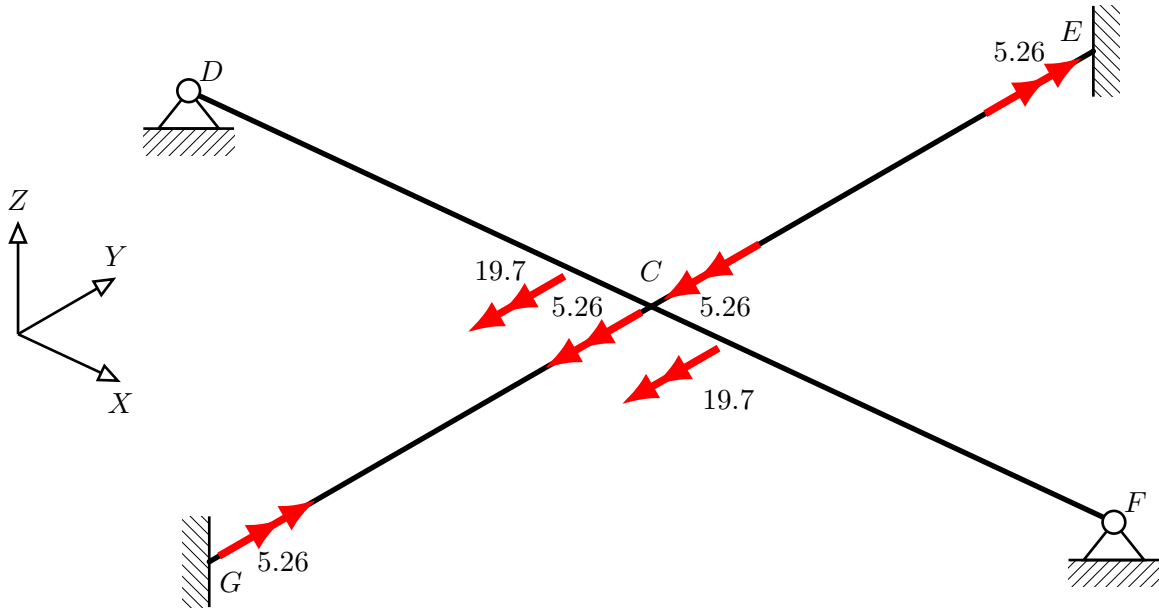
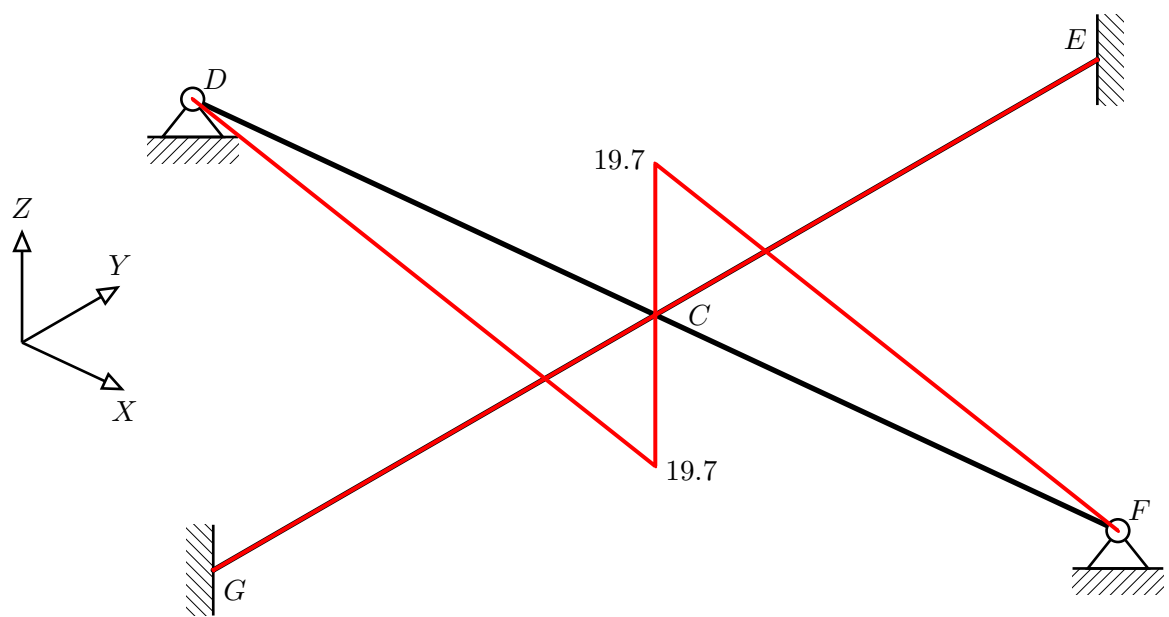
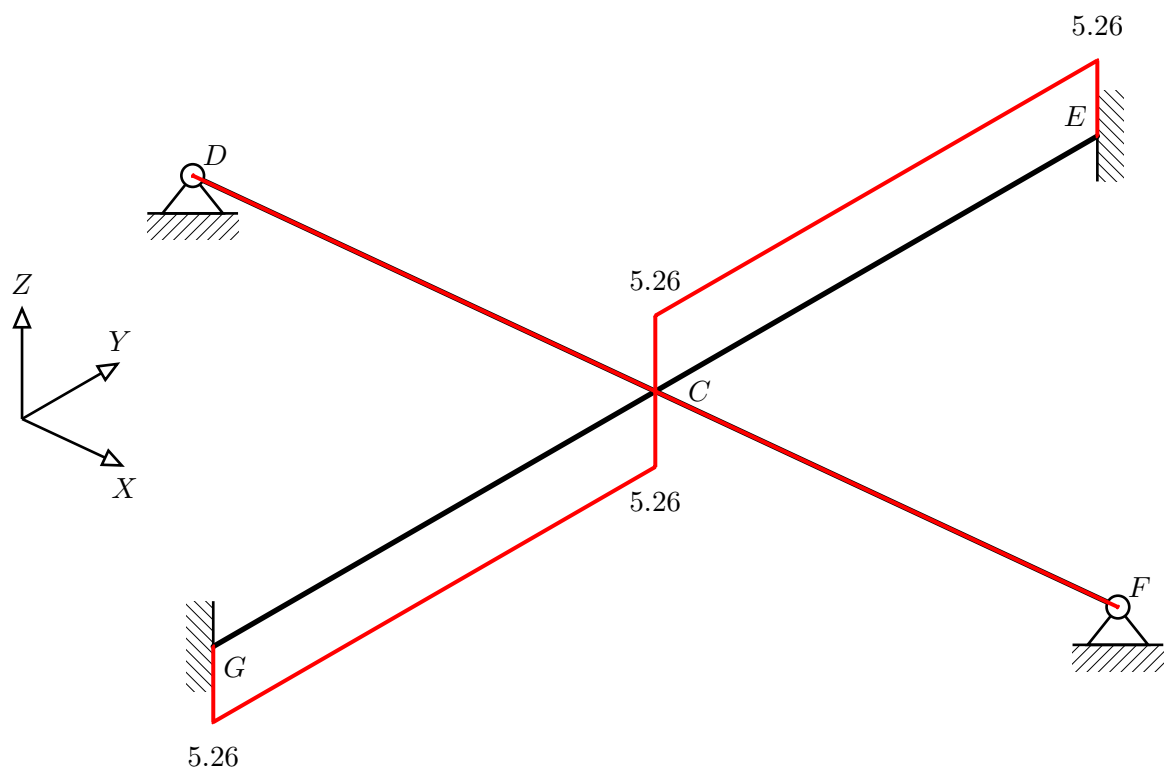

Figure 1: Free body diagram.
Figure 2: Bending Moment Diagram.
Figure 3: Torsion Moment Diagram.
**Step 10** is to draw the internal actions diagrams. To do this, the results of the member actions which were derived in the local member coordinate system must now be considered now in the global coordinate system. The easiest way to do this is to draw the directions by carefully interpreting the member force signs against the global axis system. The resulting FBD is shown in Figure 1.
Considering the BMD, for each member, to identify the side in tension it can help to visualise the deformation resulting from the forces acting on it indicated in the free body diagram, Figure 1. Since there are no loads acting between the nodes, the BMD is comprised of straight lines between the values at each node. The BMD is shown in Figure 2.
For the TMD, it is not necessary to adopt a strict drawing convention once the relative actions are indicated. For example, the double-headed arrow in Figure 1 indicating the torsion of member  $CE$  could be thought of as an analogous “tension” which we may consider as positive, and so we draw the TMD above the line. Similarly, for member  $CG$ , the double-headed arrows act in the opposite sense to the analogous “tension” and so are analogous to “compression”, which we then draw on the bottom of the member, as shown in Figure 3.